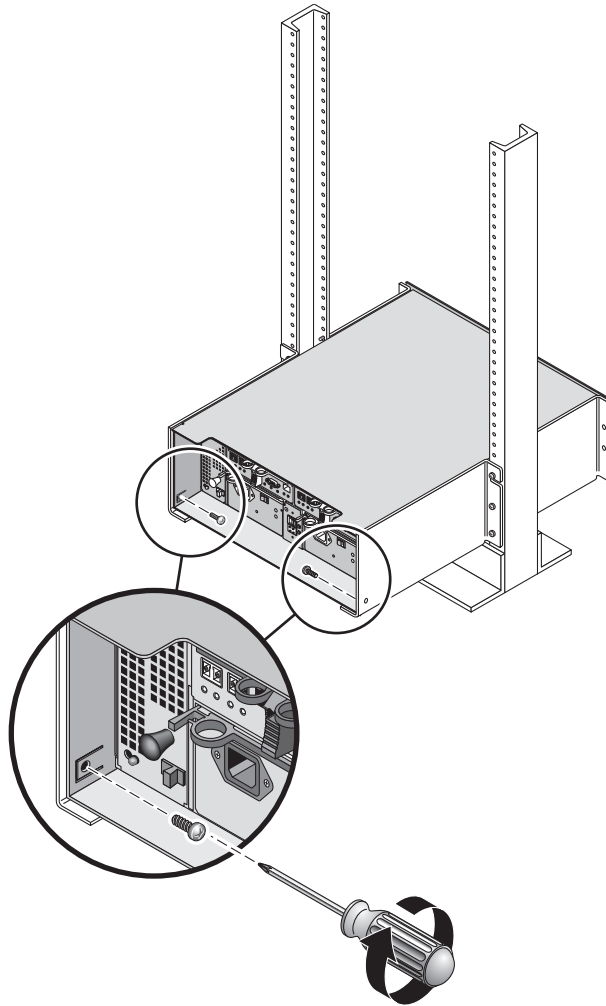

FIGURE 2-30 Securing the Tray to the Back of the Rack
6. At the back of the tray, use the #2 Phillips screwdriver to install and tighten two 8-32 screws (one per side) through the back mounting points (FIGURE 2-30).